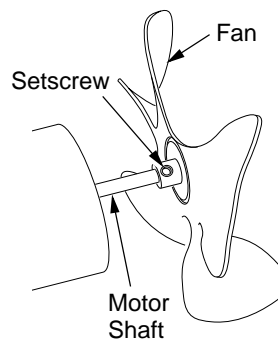

Figure 6 - Fan, Motor Shaft, and Setscrew Location
**IMPORTANT:** Remove fan from motor shaft before removing motor from heater. The weight of the motor resting on the fan could damage the fan pitch (see Figure 6).